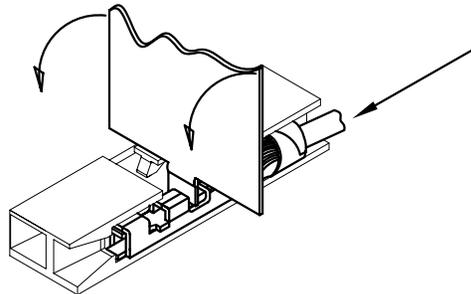

FIGURE 2
5. TO REMOVE TERMINAL; PUSH TERMINAL FORWARD, LIFT LATCH WITH HAND TOOL AS SHOWN IN FIGURES 2 & 3. DAMAGE TO LATCH MAY OCCURE IF LIFTED MORE THAN A 25° ANGLE TO TOP OF HOUSING.